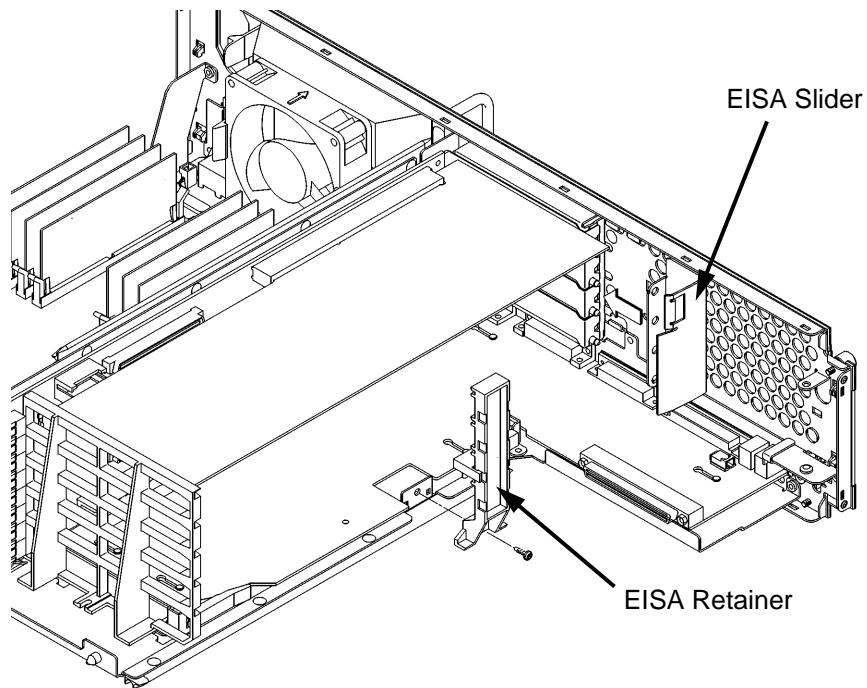

Figure 13 **Installing the EISA Retainer and EISA Slider**
- 8 Replace the EISA retainer and its screw, as shown in Figure 13.
- 9 Replace the EISA slider, as shown in Figure 13